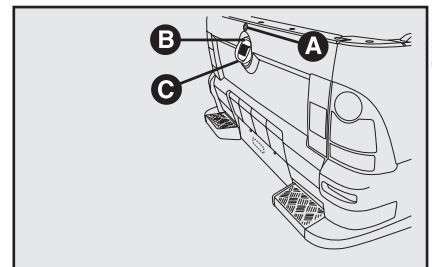

fig. 81
- insert the key in the lock A-fig. 81 and turn it anticlockwise;